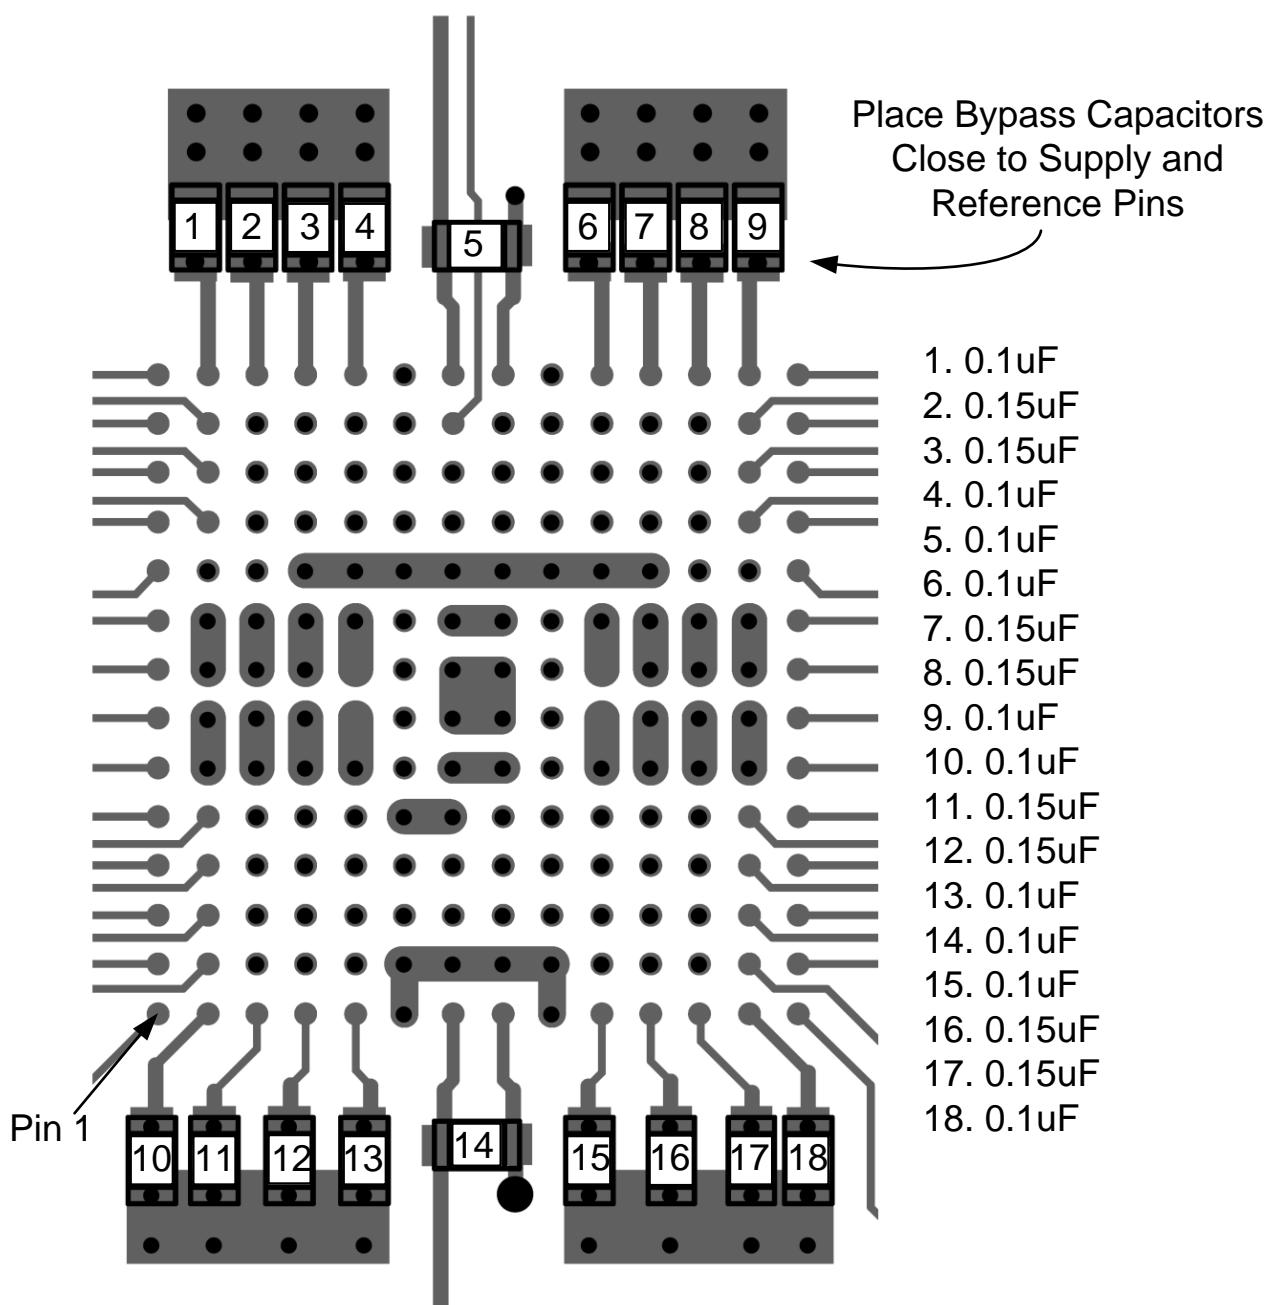

Figure 56. DAC60096 Example Board Layout – Top Layer PCB
- Place power supplies and VREFH/L bypass capacitors close to pins to minimize inductance and optimize performance. Inner supply and reference pads can connect to the bypass arrangement on the bottom layer of the PCB through vias to minimize trace length. This is illustrated in Figure 56 and Figure 59.
Optimal layout requires the addition of blind vias. This layout reduces trace length and brings the bypass capacitor arrangements closer to the device pads. Figure 56 to Figure 59 show the board layouts.